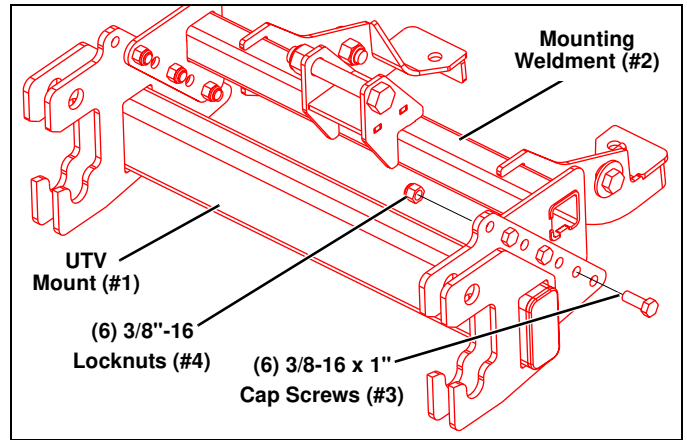

Figure 5
- Attach the UTV Mount (#1) to the Mounting Weldment (#2) with (6) 3/8"-16 x 1" Cap Screws (#3) and (6) 3/8"-16 Locknuts (#4) (three on each side). (See Figure 5.)